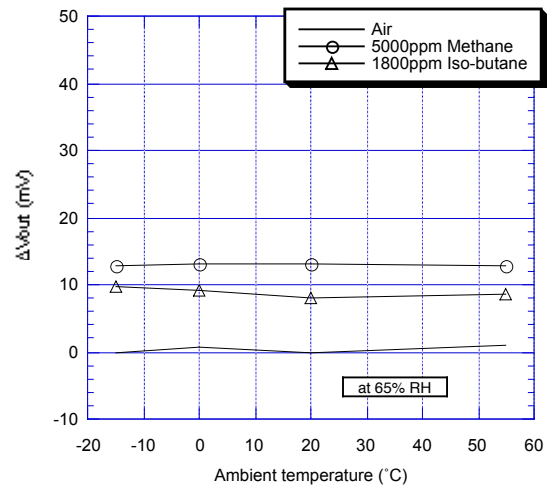

Fig. 5 - Temperature dependency
Figure 5 shows the temperature dependency of TGS6810-D00 at 65%RH in 10%LEL of methane and LP gas. Since the temperature dependency of element (D) is compensated by element (C), the temperature dependency of sensor output in the range from -10°C to +70°C is very small.